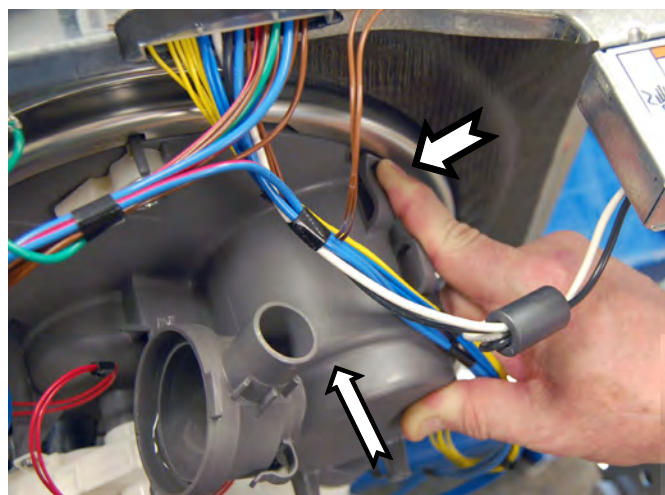

Figure 11
8. Depress the locking tab and push upward on sump to detach from tub, see figure 11.